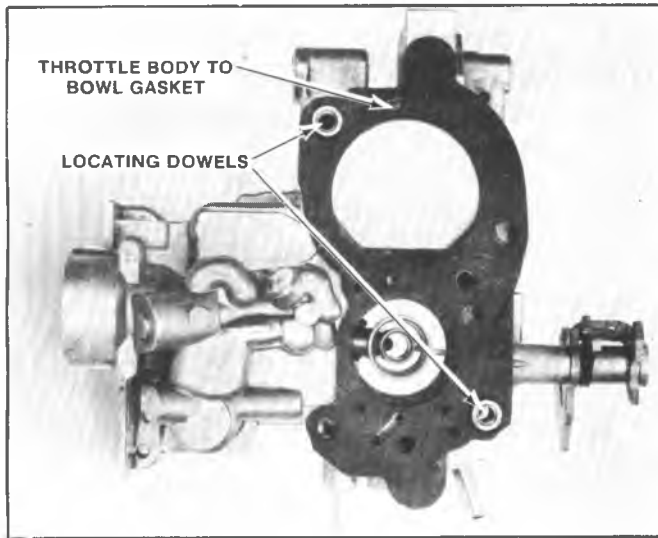

Fig. 6C2-37--Throttle Body to Bowl Gasket
**NOTICE:** If a new float bowl assembly is used, stamp or engrave the model number on the new float bowl (see Fig. 6C2-4).
1. Install new throttle body to bowl insulator gasket over two locating dowels on bowl (Fig. 6C2-37).
2. Holding fast idle cam so that cam steps face fast idle screw on throttle lever when properly installed, install throttle body making certain throttle body is properly located over dowels on float bowl; then install (4) throttle body to bowl screws and lockwashers and tighten securely (Fig. 6C2-33).